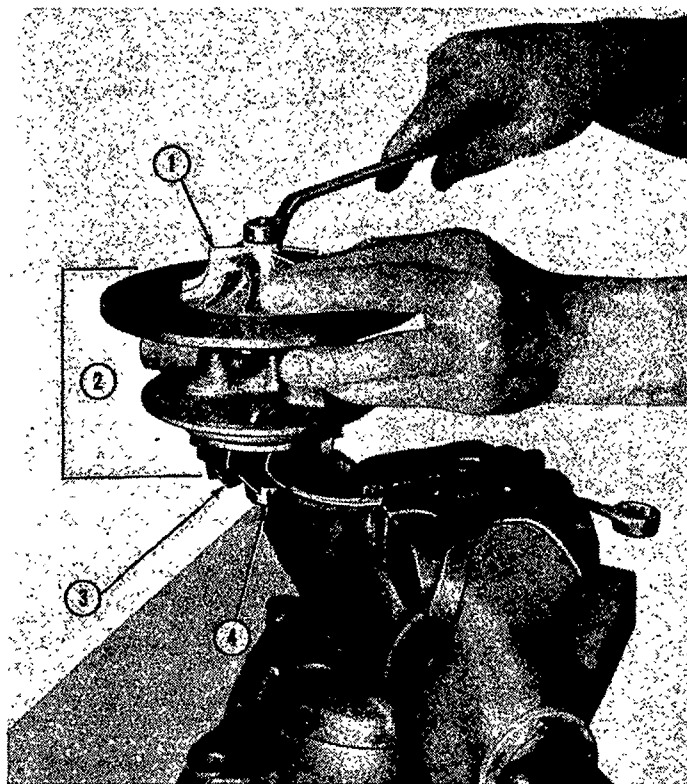

Figure 5
- Remove the nut from the clamp band screw. Remove the clamp band and the core assembly, Figure 5, from the turbine housing.
4. Clamp a 5/8 inch twelve-point box end wrench in a vise as shown in Figure 5. Place the hub of the turbine wheel in the wrench socket.